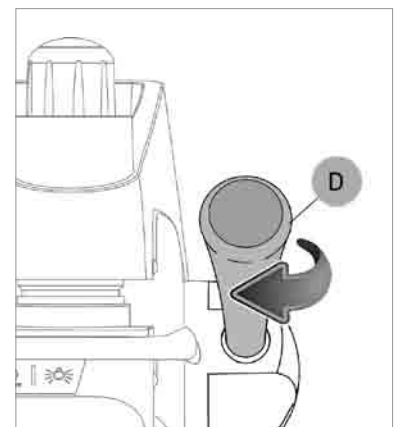

Fig. 53
- 7) Grip the levers (C) and (D).
- 9) Keep the clamp carriage still with the left-hand lever (C); lower the tool unit with the right-hand lever (D), stopping before coming into contact with the clamp (close to the key).
- 10) Without exerting pressure, turn the lever (D) clockwise to lock the height reached (Fig. 53).
- 11) Start the motor with the switch (Q).
- 12) Move the lever (C) to trace all the cuts on the key with the tracer point.